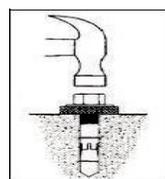

Fig. 18
- Fix anchor bolts into the holes with a light hammer (without inserting the central expansion screws of the anchor bolts, which shall be fixed after the leveling is completed), as shown in Fig. 18